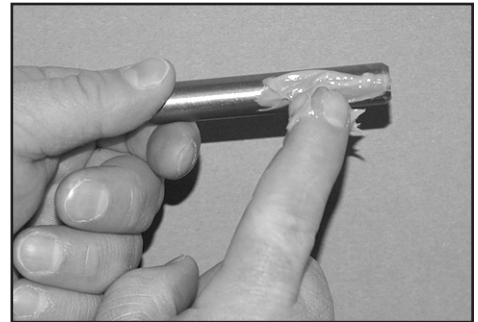
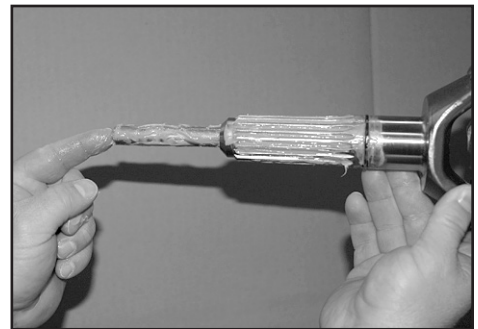

FIGURE 5G
FIGURE 5H
5.6 Grease one end of the engagement pin (10-494) (see Figure 5G). Insert greased end into the end of the splined end yoke shaft (see Figure 5H). Three quarters (3/4) of the engagement pin should remain beyond the end of the splined end yoke shaft.